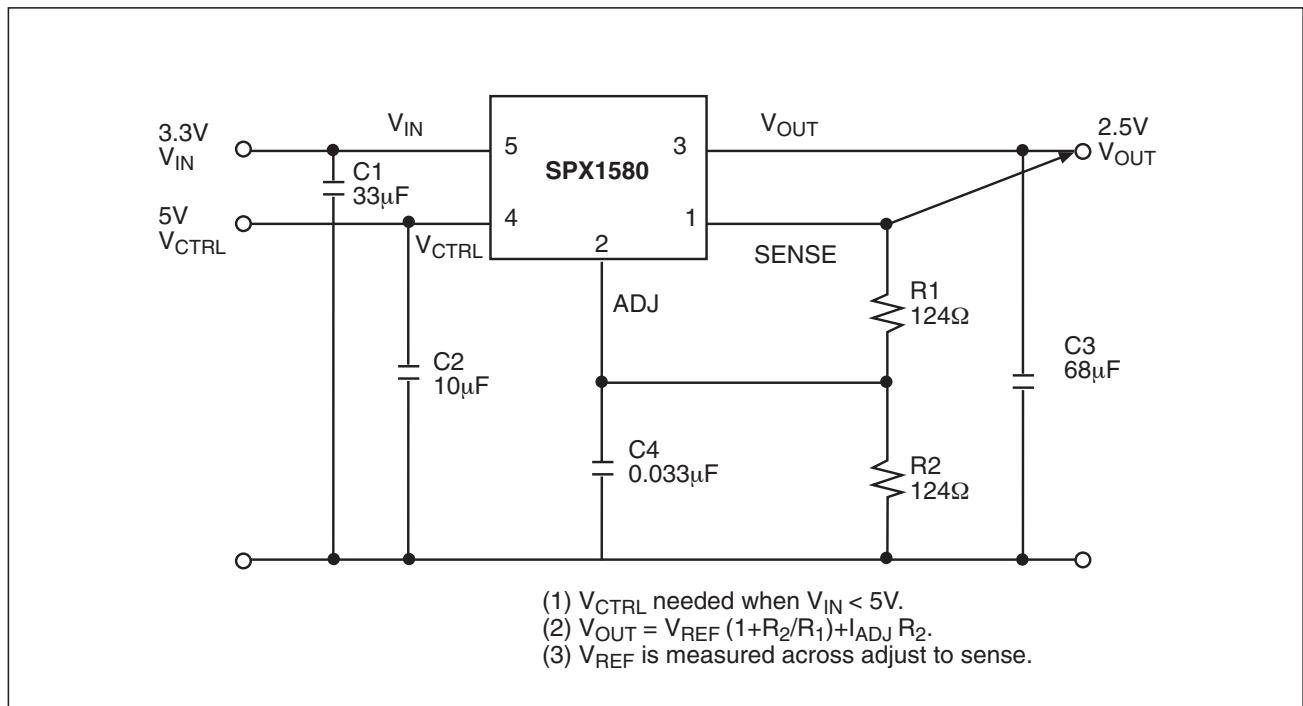

Figure 1. Adjustable Regulator.
1.25V reference voltage is being developed between the SENSE pin and the ADJ pin of the SPX1580. Adding two external resistors (see fig 1.) will allow setting the output voltage from 1.25V to 6V. R₁ is chosen so that this current is specified minimum load current of 10mA. R₂ is given by the formula: $V_{OUT} = V_{REF} (1 + R_2/R_1) + I_{ADJ} R_2$. The current flowing from the ADJ pin is typically 50uA. This ADJ pin contributes to the final V_{OUT} but is usually neglected.